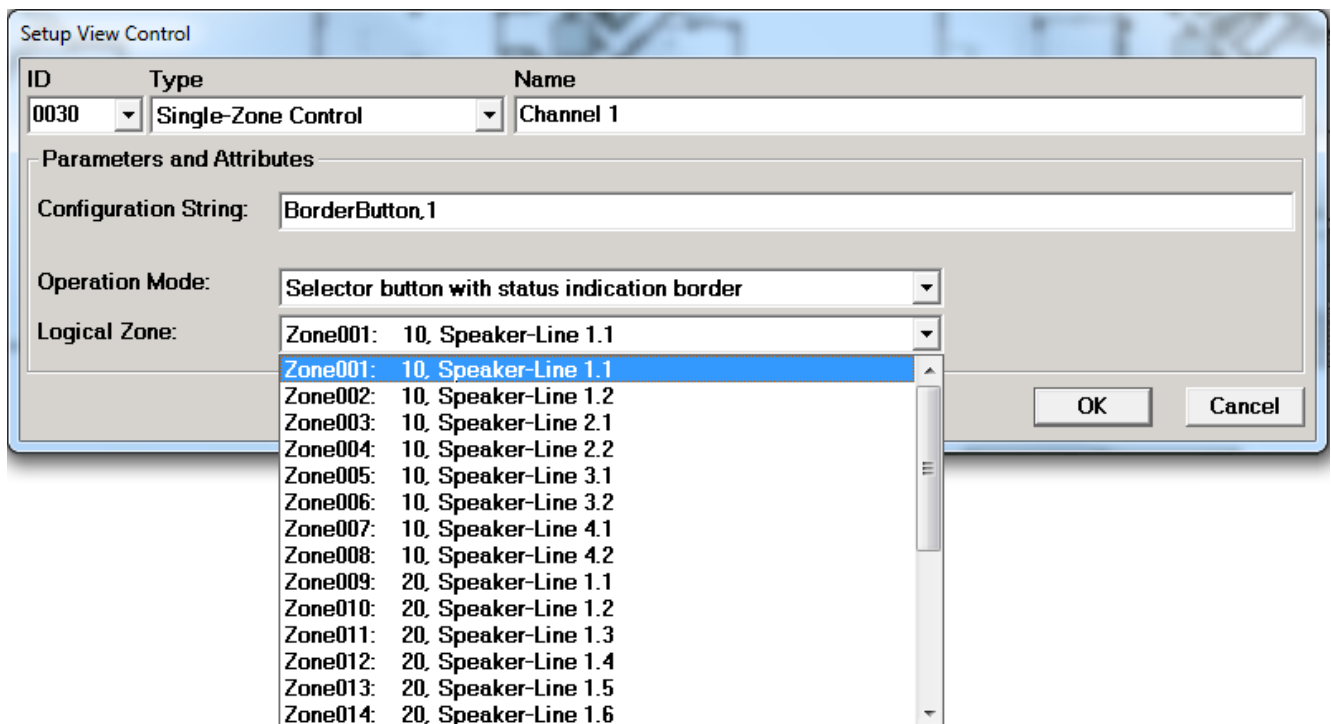

Fig. 20: Popup dialog for configuration of a single zone selector button
- Select the element type. Depending on the element type selected, the dialog is extended with input and selection fields for specifying the type-specific control and display parameters of the control element. The types supported by the dialog as well as their configuration are described in the sub-chapters 4.6.2.1 to 4.6.4.5; the associated type-specific extended dialogs are shown in Fig. 20 to Fig. 26.
To configure the single zone selector button, define the following control and display parameters for creating / modifying the control element (see Fig. 20):